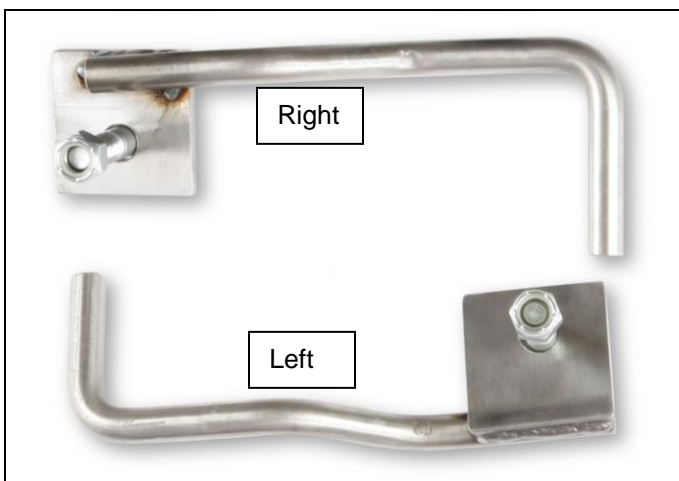
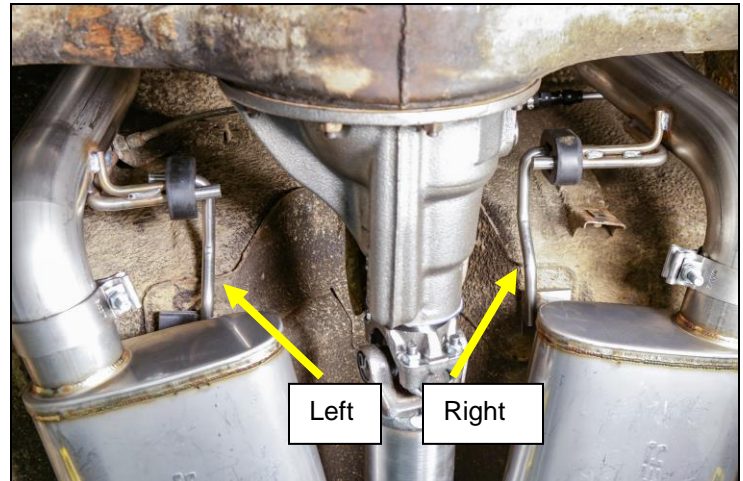

Figure 7
Figure 8
- Install muffler hanger rod assemblies (Figure 7) on to the 7/16-20 bolt at the seat belt anchor installed previously (Figure 8).
- Install the hanger assemblies with the hanger rods facing outwards, install the 7/16 Lock nut and tighten (Figure 8).